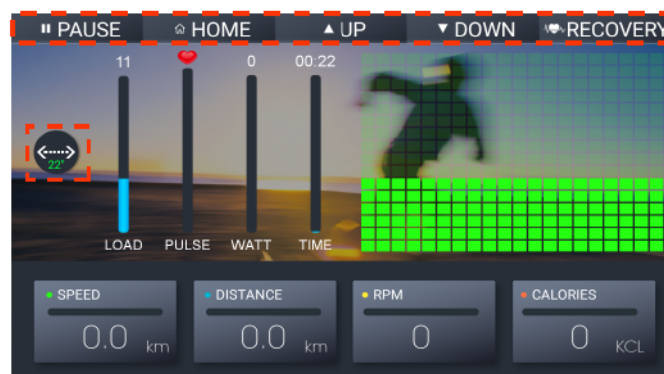

Fig.11 Quick Start Function
If you would like to directly start your training without any training schedule (Fig.11), please follow these two instructions
2. While Using QUICK START (Fig.11)
- Press  or  to adjust the load. The load adjustment will be demonstrated by the amount of the green square bar. (Fig.11)